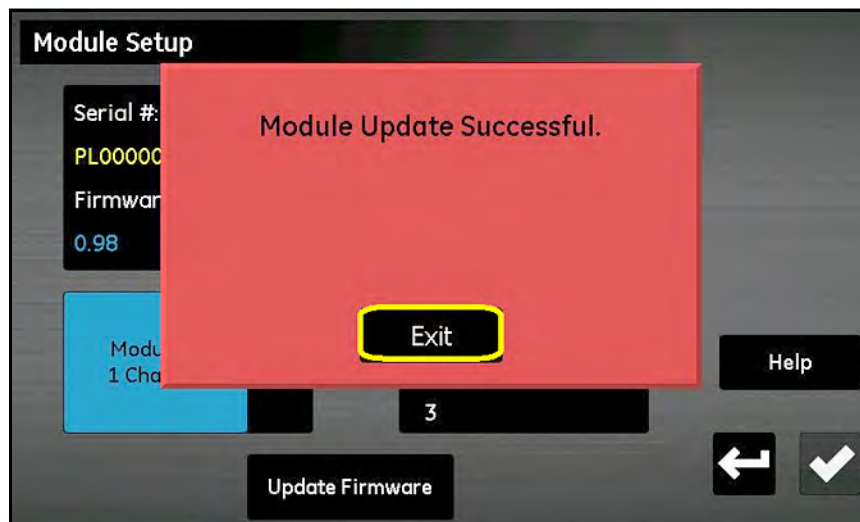

Figure 98: Installation Successful
7. After the update is complete (see *Figure 98* below), the meter prompts you to exit. Tap the **Exit** button.